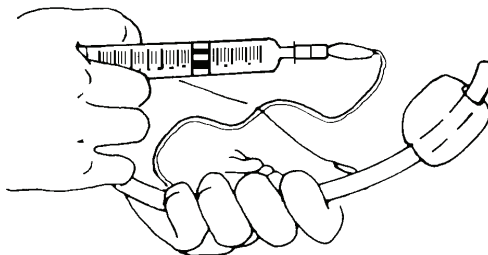

Figure 3-63. ET tube cuff valve
- (3) Unlock and collapse laryngoscope blade and set aside until ready for use.
- a. Fill the 10 cc syringe with air and attach the syringe to the ET tube cuff valve (pilot balloon), inflate the cuff, and inspect for leaks. Refer to Figure 3-63.